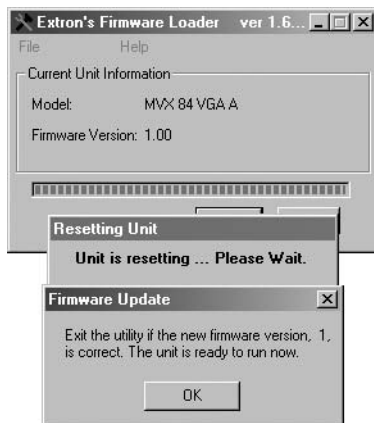

Figure 4-12 — Firmware Loader status indicator bar, switcher reset, and firmware update
5. Click the **Open** button. A status bar, which shows the progress of the upload, appears in the Firmware Loader window (figure 4-12). The firmware upload to the switcher may take several minutes.